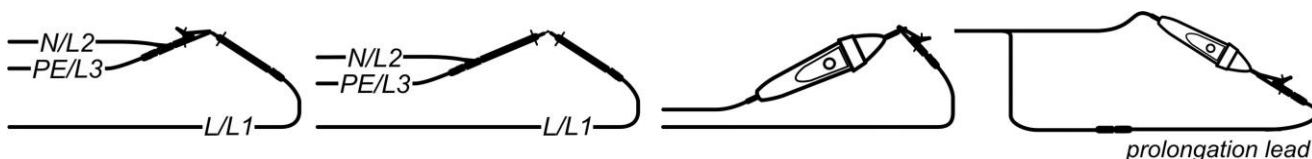

Figure 5.13: Shorted test leads
- ❑ **Connect** test cable to the instrument and short the test leads together (see *Figure 5.13*).